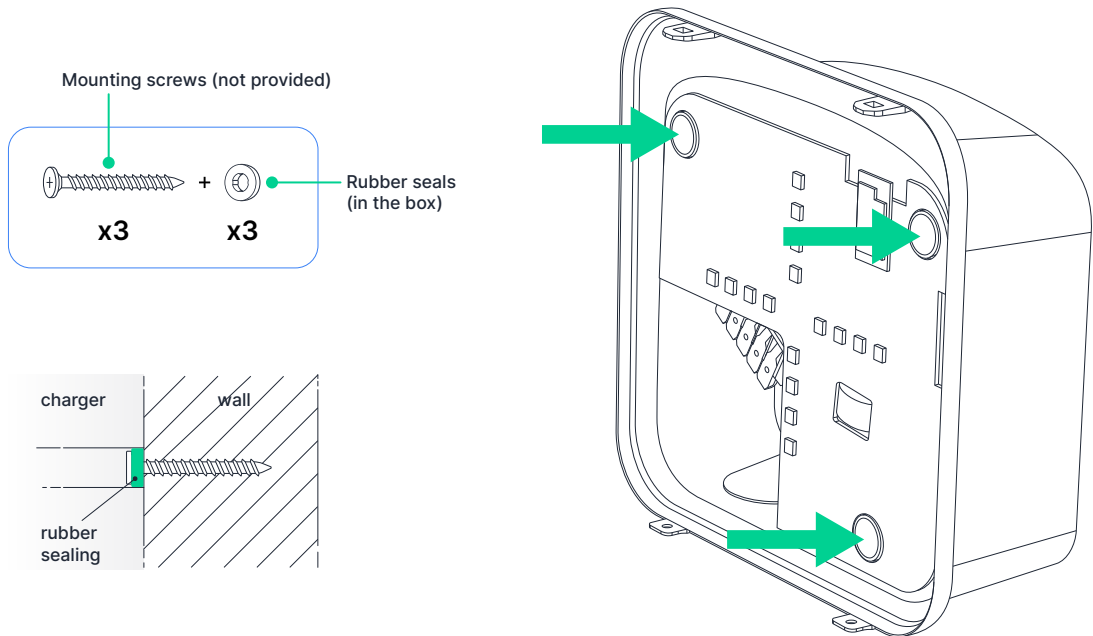

Fig. 6 - Mounting points of the charger
**Anchor screws and corresponding screws are not included. (Fig 6 - page 18)**
9. Fix the main body of the charger on the wall by inserting the screws with the provided **rubber sealing washer through the mounting points** and tighten them with a screwdriver by hand. (Fig. 6 - page 18)